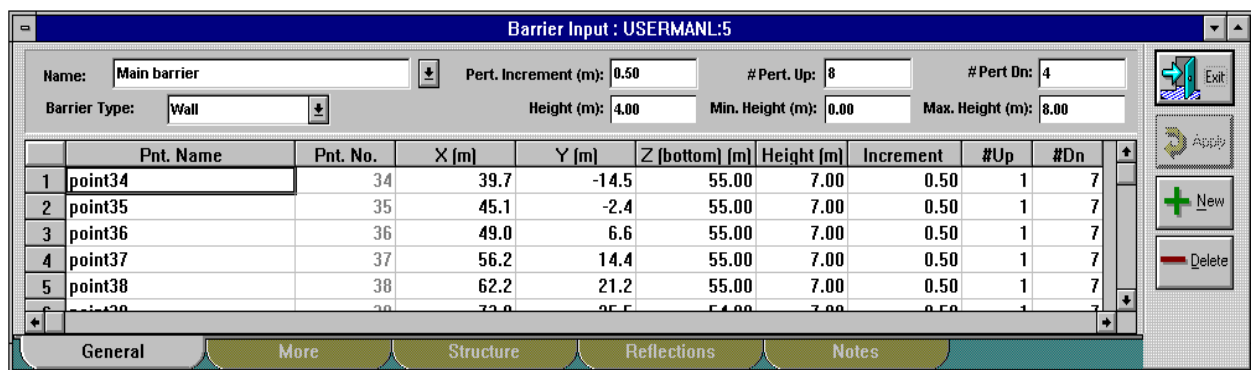

Figure 32. Barrier input: General tab.
2. Select **General** on the barrier input dialog (see Figure 32).